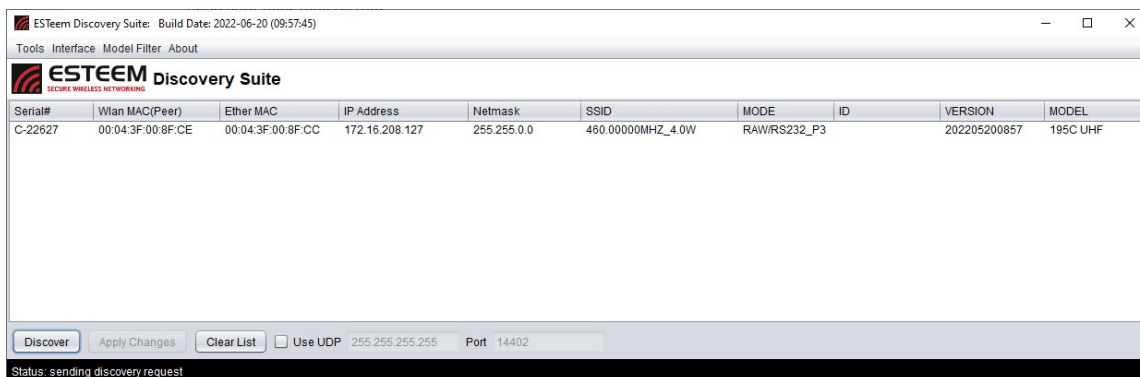

Figure 5: ESTeem Discovery Utility
1. Verify the basic hardware configuration from Chapter 2 and open the 195 Narrowband Configuration Utility (Figure 5). Press the *Discover* button to continue.
2. The ESTeem 195M/H/C will be displayed (Figure 5). If the ESTeem 195M/H/C is not on the same IP subnet as the computer, double click on the IP address and Netmask to make the necessary changes. Press the *Apply Changes* button when complete.